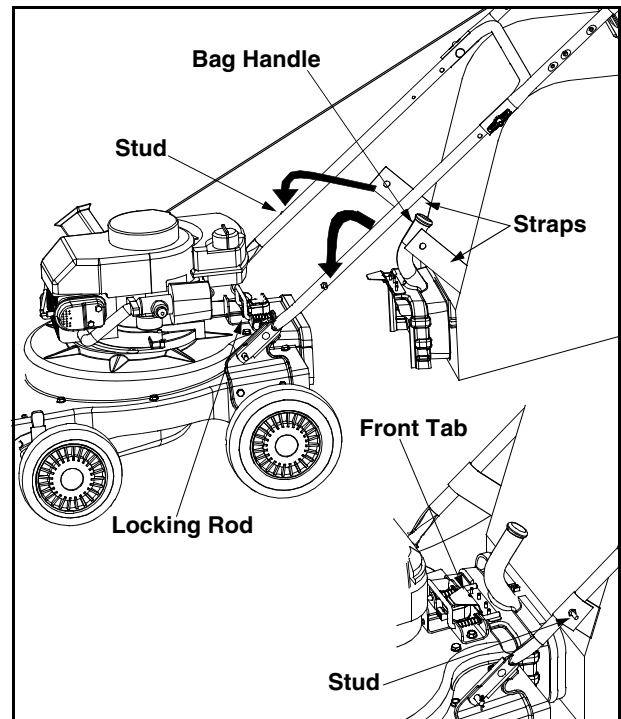

Figure 5
- Grasp bag handle with one hand and slide locking rod on mounting bracket with other hand toward engine. Use the end of mounting bracket as leverage when sliding the locking rod. See Figure 5.